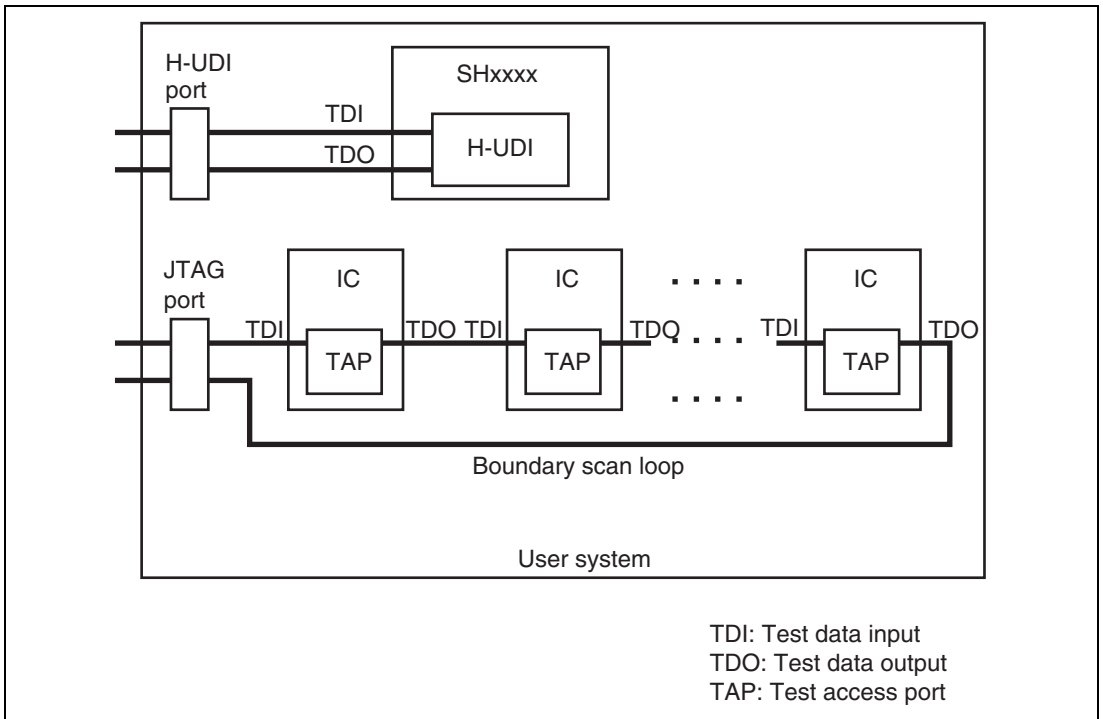

Figure 2.16 User System Example
4. When developing user systems, do not connect the TDI and TDO signals of the device to the boundary scan loop, or separate them by using a switch (figure 2.16).